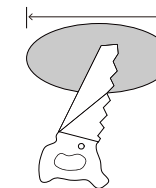

Fig1
Step 1: Turn off the power before installation. Remove the existing fixture if applicable. Determine the location and necessary hole cutout diameter using the supplied table and cut the ceiling hole with the listed approximate diameter, see Fig1.